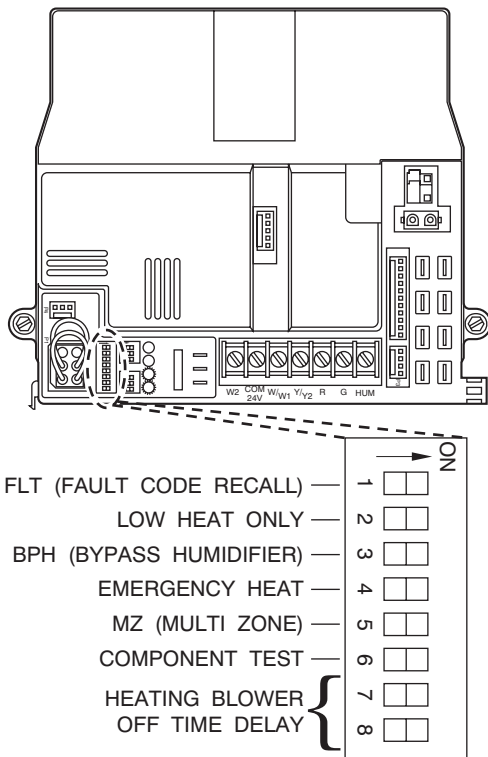

Fig. 23 – Variable-Speed Condensing Furnace Control
7. Jumper R-W/W1 and R-W2 thermostat connections on control center. (See Fig. 23 or 30.) This runs the furnace in high-heat.
8. Turn setup switch SW-2 (See Fig. 23) or switch SW1-2 (See Fig. 30) on control center to ON position. This keeps furnace in low-heat.
- g. Turn setup switch SW-2 (Fig. 23) or switch SW1-2 (Fig. 30) on control board to OFF position.
- g. Turn setup switch SW-2 (Fig. 23) or switch SW1-2 (Fig. 30) on control board to ON position. This runs furnace in low heat.
- 5. Turn setup switch SW-2 (Fig. 23) or switch SW1-2 (Fig. 30) on control board to OFF position.